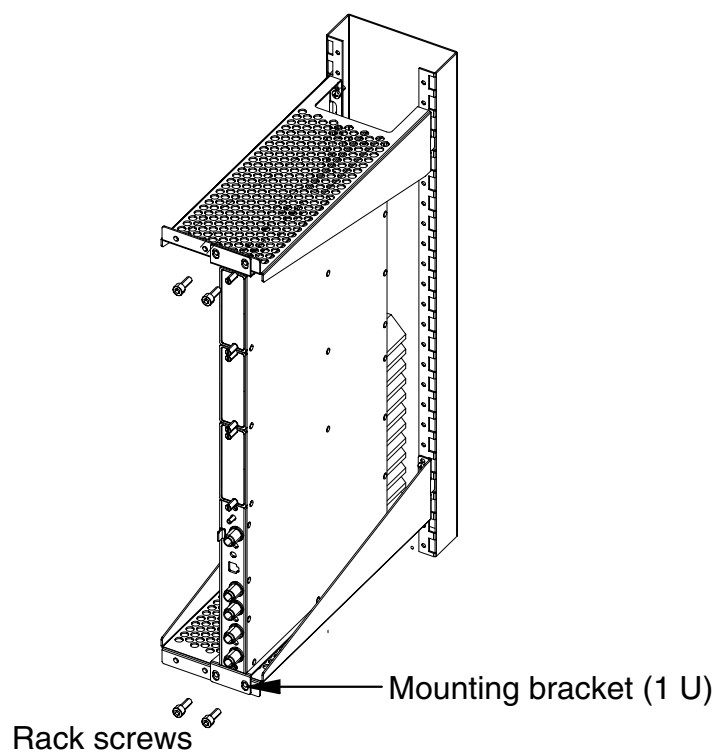

Figure 12. Installing FIU 19 4 - 12 x 2M in a TM4 slim rack
To install FIU 19 (E) with 4 - 12 x 2M capacity in a slim rack, follow the instructions in Section 4.1.1. Ignore the use of rack mounting nuts. They are not needed in this installation. Fix the unit to the rack as shown in Figure 12.
4.3.2 FIU 19 (E) with 16 x 2M capacity (1+0)